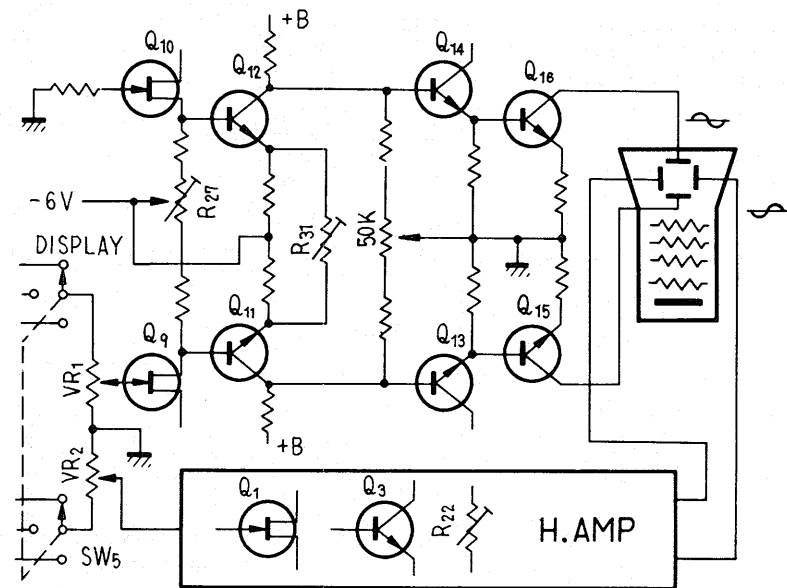

Fig. 6
6.4 VERT. AND HORIZ. AMPLIFIER CIRCUITS (Figs. 6, 7)
(The following explanations refer to the vertical amplifier; the horizontal amp functions in essentially the same manner.) Figs. 6 and 7 show the vertical amp circuit in detail.